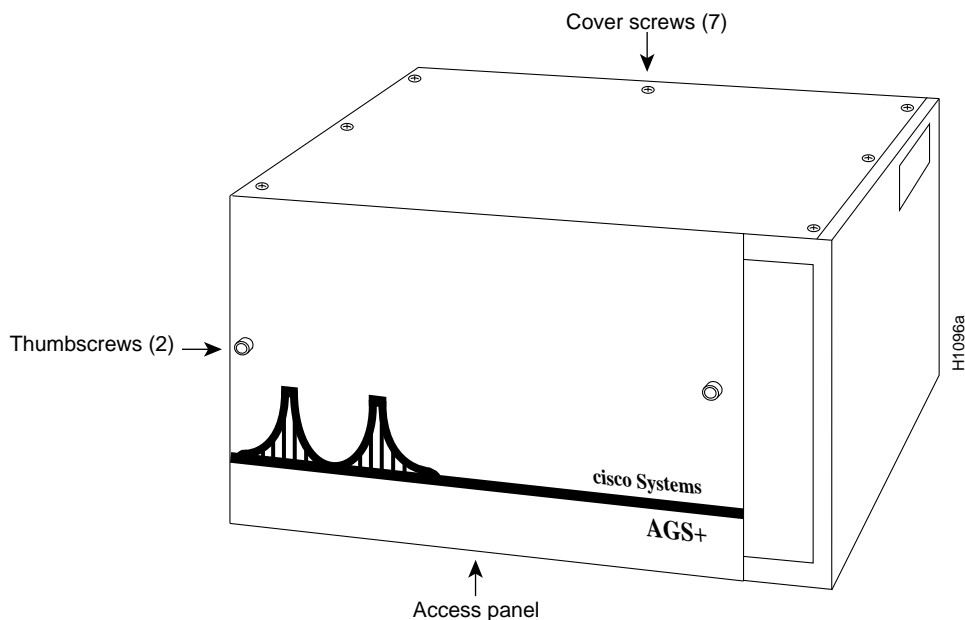

Figure 6 Chassis Front and Top Panels
- Step 5** To access cards in the card cage, loosen the two thumbscrews and remove the front panel from the chassis. (See Figure 6.) If you wish to access cards in the card cage only, skip the next step.
- Step 6** To access other system components, locate and remove the seven No. 1 Phillips screws securing the top cover. (See Figure 6.) Set the top cover and screws aside.